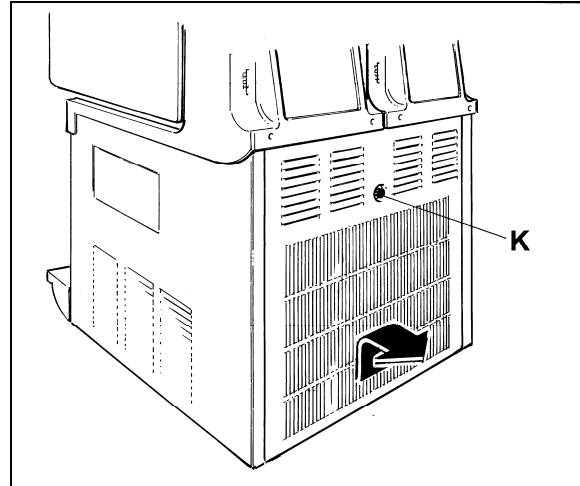

Fig. 29
- Unscrew the knob (K) in order to remove the back panel (see figure 29).